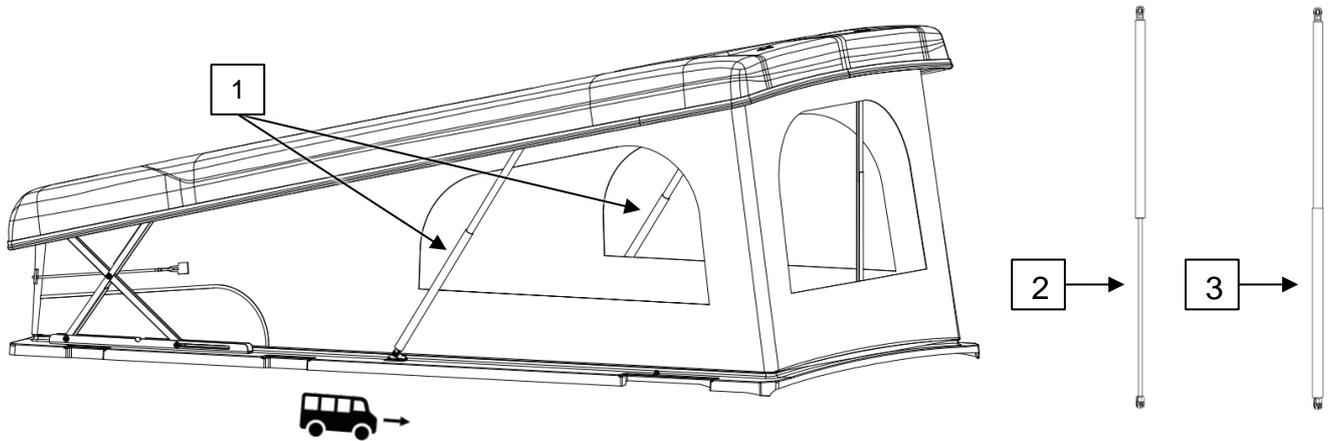

Abb. 3-1: Exterior view of sleeping roof [G0001549]
- Attach the gas springs on both sides (s. Abb. 3-1, 1): The gas springs are supplied pre-tensioned with a loop.
- **When attaching, ensure that the piston rod (2) (covered by the protective tube (3)) is pointing downwards!**